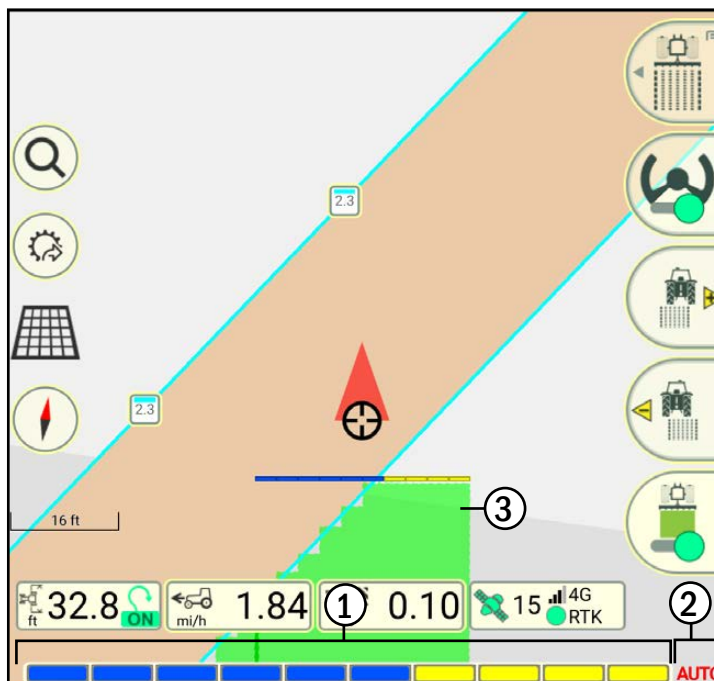

Fig. 66: Section control
The section status (1) and section control mode (2) are displayed in the section status of SMART GUIDE (see Fig. 66).
In the field, the worked area is highlighted by the active sections (see Fig. 66 – 3).